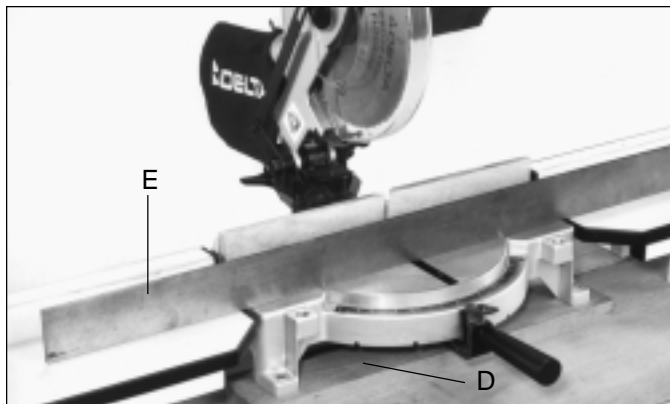
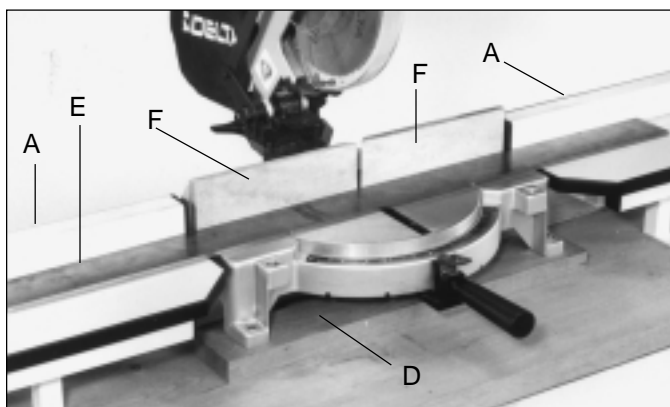

Fig. 3
Fig. 4
4. Mount the miter saw to the planned stock (D) Fig. 3, and using a straight edge (E), make certain the saw table surface is level with the miter table surface, as shown in Fig. 3, and that the saw fence (F) is in line with the fence (A) of the miter tables, as shown in fig. 4